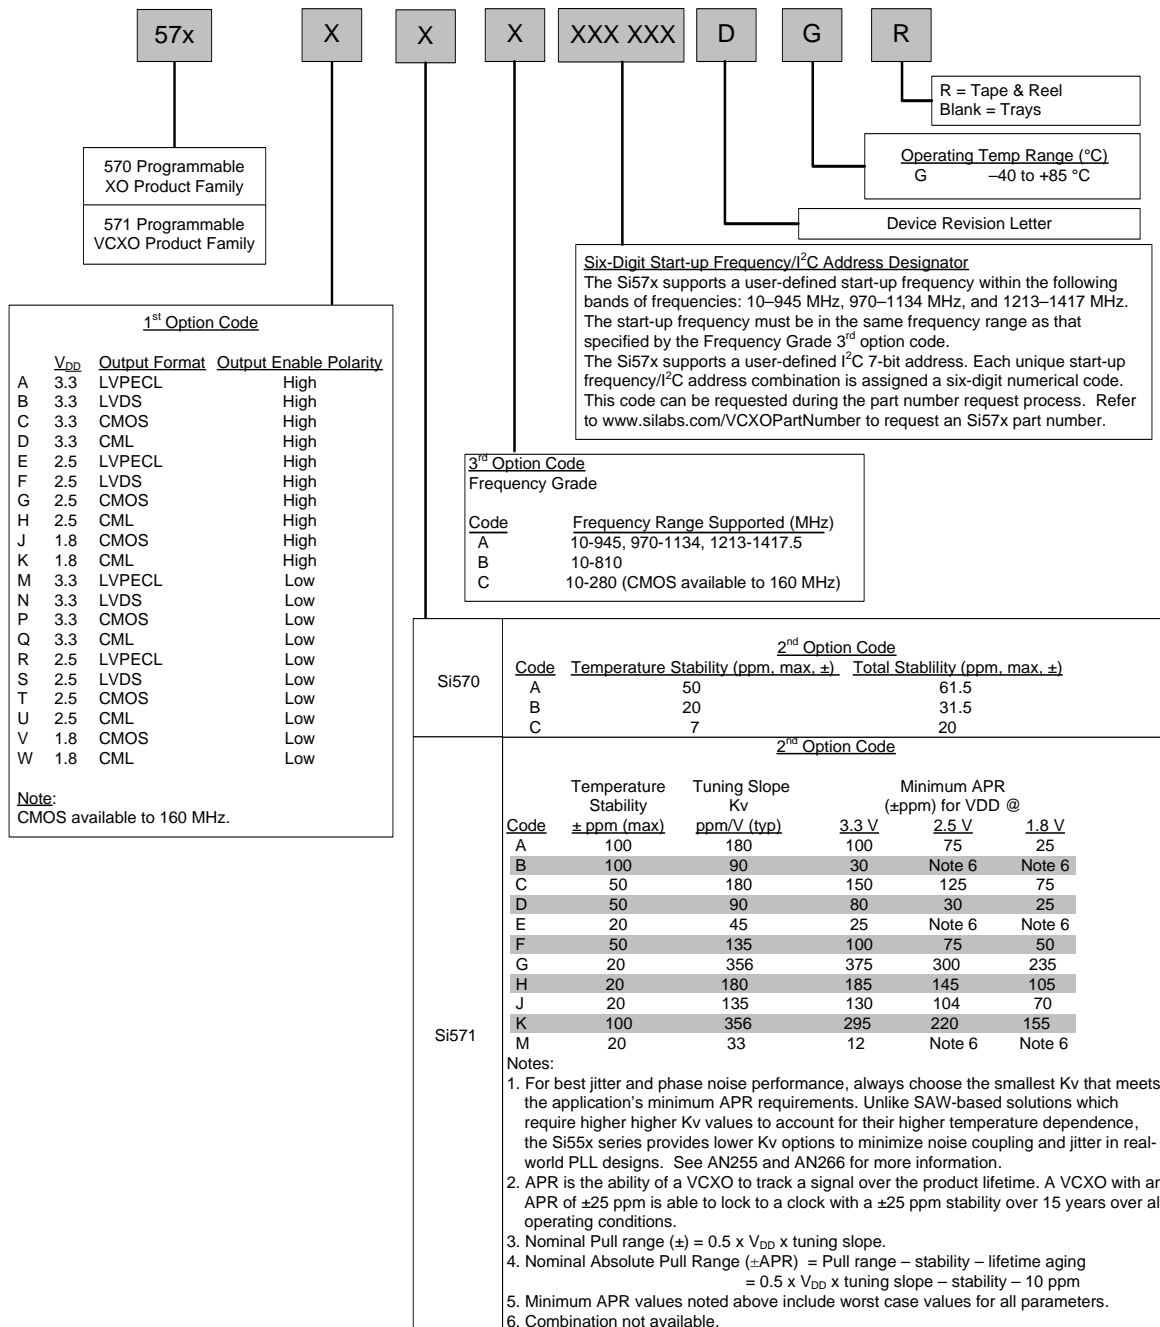

Figure 6. Part Number Convention
- Added Si570 20 ppm Total Stability Ordering Option to Figure 6 on page 27.
- Added Si570 7 ppm Total Stability Ordering Option to Figure 6 on page 27.